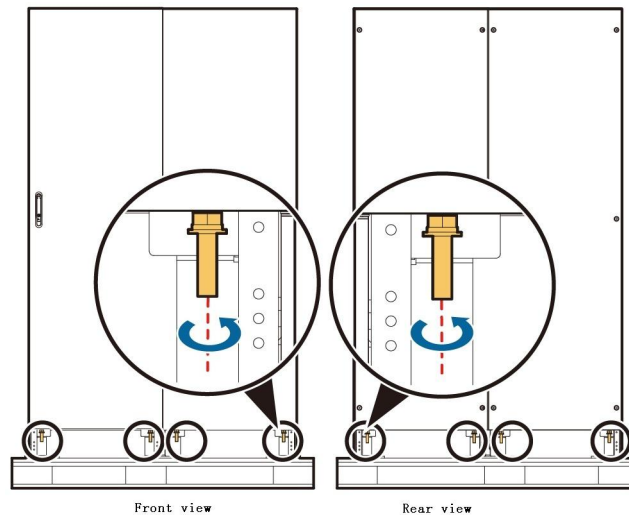

Fig. 2-7 Removal of screws fixing cabinet and pallet
- Step 5: After confirming that the equipment is intact, remove the screws fixing the cabinet and pallet. Take the power cabinet as an example, as shown in Fig. 2-7.